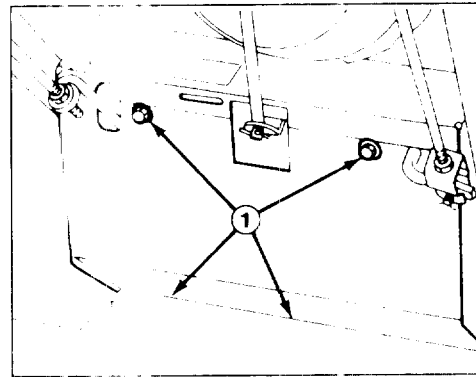

Figure 25
6. Remove (4) screws securing bottom cover to frame (Fig. 25). Remove bottom cover
2. Remove (4) screws securing bottom cover to frame. Remove cover (Fig. 25).